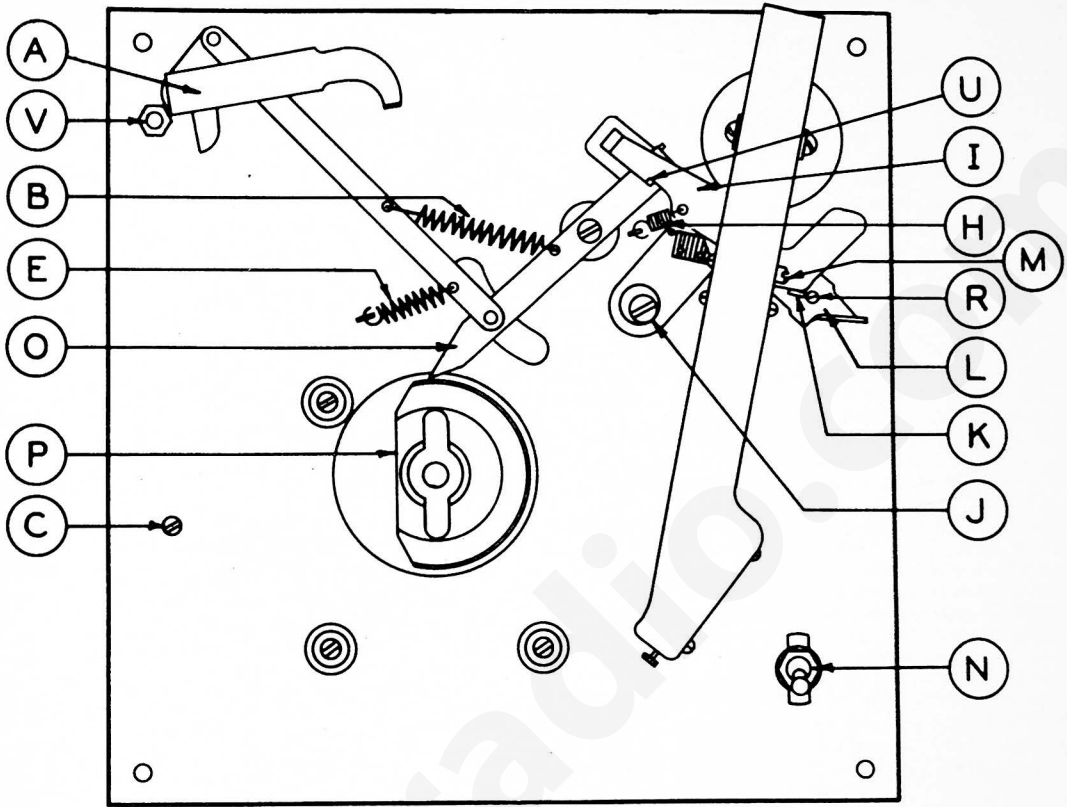
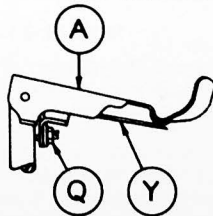

FIGURE 1
FIGURE 3
To load the mechanism lift the record removing arm at (A) Fig. 1 to the upright position. To adjust the pickup to play 10" records, automatically, push the pickup stop at (K) Fig. 1 back away from the pickup. To play 12" records manually, pull the stop forward toward the needle as far as it will go. Place records on turntable. Throw switch at (N) Fig. 1 to the "On" position. Mechanism will now operate and reject each record after it has been played through. To reject a record and play the next record below it, pull the latch lever at (L) Fig. 1 forward.
To operate the mechanism in the manual position, lift the record removing arm at (A) Fig. 1 to the upright position. 10 or 12" records can then be played by the position of the pickup stop at (K) Fig. 1. To play 10" records manually, push the pickup stop at (K) Fig. 1 back away from the pickup needle. For 12" records, pull the stop forward toward the needle as far as it will go.
The motor speed is adjusted by means of a slotted post (C) 3 Fig. 1 which is located under the turntable. To change motor speed rotate this post slightly by means of a screw driver.
The trip mechanism is the trigger that sets the Record Changer in motion. This is done by allowing the latch bar at (O) Fig. 1 to drop in front of, and be actuated by the cam at (P) Fig. 1. This cam is driven by the motor and is in motion as long as the motor is running. If this mechanism does not operate smoothly, the precautions outlined in succeeding paragraphs should be observed.
First of all, make sure that the square pin in the latch lever at (U) Fig. 1 latches properly in the notch in the lift lever at (1) Fig. 1. When latched, the notch should be engaged approximately one-half of its depth. The depth of engagement is adjusted by means of the eccentric washer and locking screw at (J) Fig. 1. Now run the record changer through its cycle. If the square pin fails to engage the notch in the lift lever, first check the tension of the latch spring at (H) Fig. 1 to insure that the notch can engage the pin. Next check the tension
of the reset spring at (E) Fig. 1. This reset spring should not be under tension when the latch bar is latched but should have enough tension when the latch bar drops back off of the cam to cause the square pin to over travel the notch in the lift lever.
The oval head pivot screw at (R) Fig. 1 serves as a pivot for the lift lever at (1) Fig. 1. This screw should allow the lift lever to be raised by the latch bar to its maximum height without binding but also without any additional play.
If the Record Changer fails to trip, see if the phonograph needle is jumping out of a worn record trip groove. Next make certain that all parts of the mechanism work freely and smoothly. If it is found that the latch bar at (O) Fig. 1 is not dropping in far enough to engage the cam at (P) Fig. 1 then check the tension of the trip spring at (B) Fig. 1.
In case the Record Removing Mechanism fails to operate smoothly, proceed as follows: First make certain that all parts work freely with no binding in pivots or bearings, and that the record removing arm assembly rests on the stop screw at (Q) Fig. 3. Next stop the motor in such a position that the latch bar at (O) Fig. 1 can swing by and clear the cam at (P) Fig. 1. Place just one record on the turntable and measure from the top of this record down to the base plate. This distance should be one inch. Now by pulling the reject lever at (L) Fig. 1 first, it will be found possible to swing the record removing finger at (Y) Fig. 3 over to where it just touches the edge of the record. If the adjustment is correct, the record removing finger should just barely rise over the edge of the first record. If adjustment is required it can be made by means of the stop screw at (Q) Fig. 3. In the event the record removing arm raises the record from the turntable and drops it back in place without removing it, check the lift adjustment at (V) Fig. 1. This adjustment consists of an eccentric stud which is provided with a lock nut, and is made by loosening the lock nut and turning the eccentric stud. The lift adjustment should be set so that the hole in the center of the record just clears turntable spindle when the Record Changer is in operation.